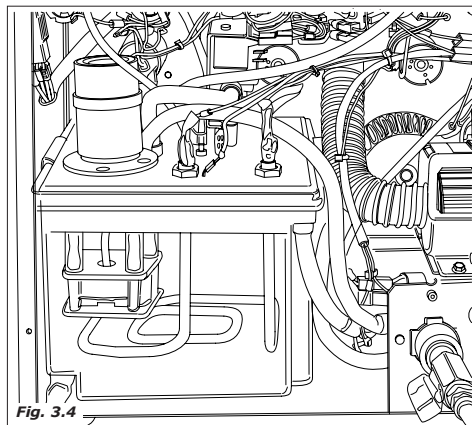

Fig. 3.4
- The solenoid valve fixed to the instant boiler is engaged in order to deliver the required quantity of water into the mixer (fig.3.4).